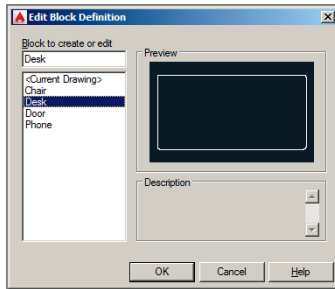

FIGURE 7.18 Selecting a block definition to edit
1. Type **BEDIT** (for Block Editor), and press Enter. Select **Desk** in the Edit Block Definition dialog box that appears (see Figure 7.18). Click OK.